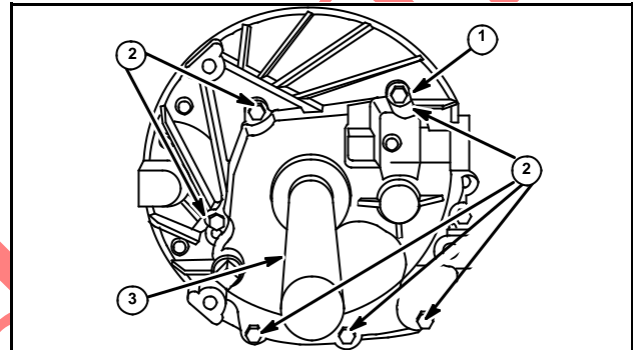

Fig. 50
7. Place non-hardening sealant such as Permatex II, on screw (1) that enters the breather chamber, Fig. 50, and install sump screws.